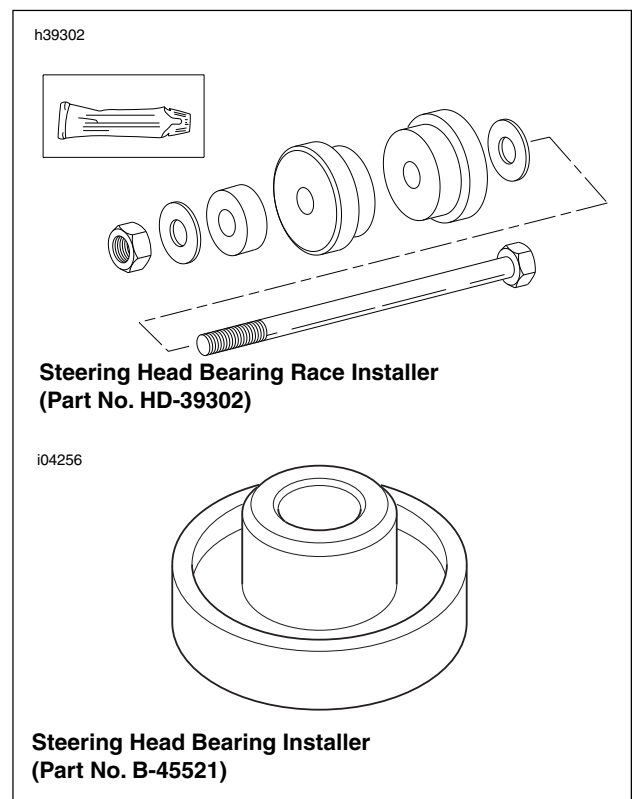

Figure 2-77. Steering Head Bearings Installation Tools
1. See Figure 2-77. Install **new** upper and lower steering head bearings into the steering stem using STEERING HEAD BEARING RACE INSTALLER (Part No. HD-
- b. See Figure 2-77. Insert the steering head bearing installation tool into the upper bearing, with the shoulder into the bearing bore.